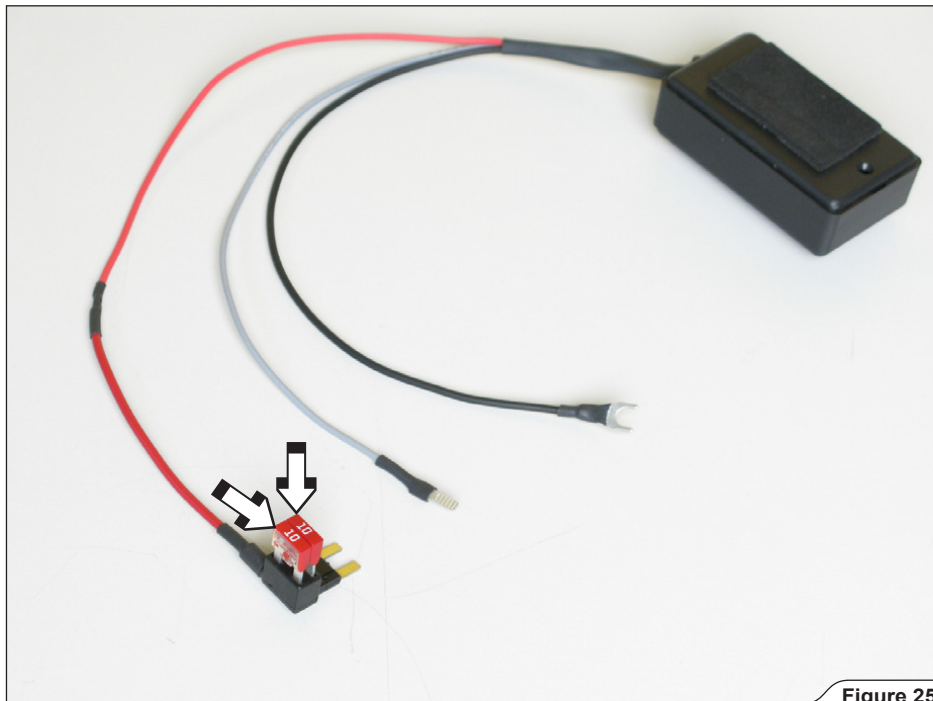

Figure 25
- Remove the passenger side floor mat and pull down the floorboard to access the fuse block. Remove the two marked fuses (upper: seat heater ; lower: exhaust flaps) and untighten the marked bolt (Figure 24). Displace both fuses into the Akrapović fuse tab (Figure 25).
! CAUTION: in case of broken supplied fuse, use only 10A automotive mini-blade fuses (Figure 25)!